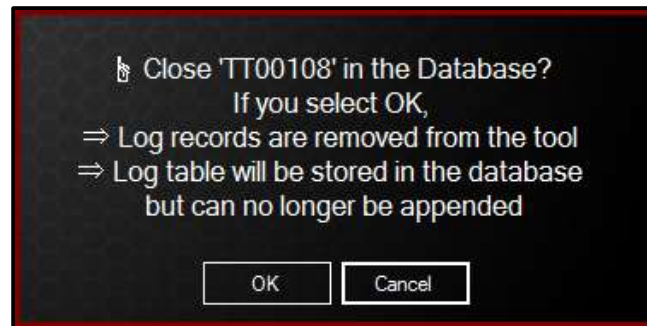

Figure 5.4-2: Close Logs Confirmation
3. Confirm the dialog box to delete the Logs from the Transducer, or press "Cancel" to abort closing the Logs (Figure 5.4-2).